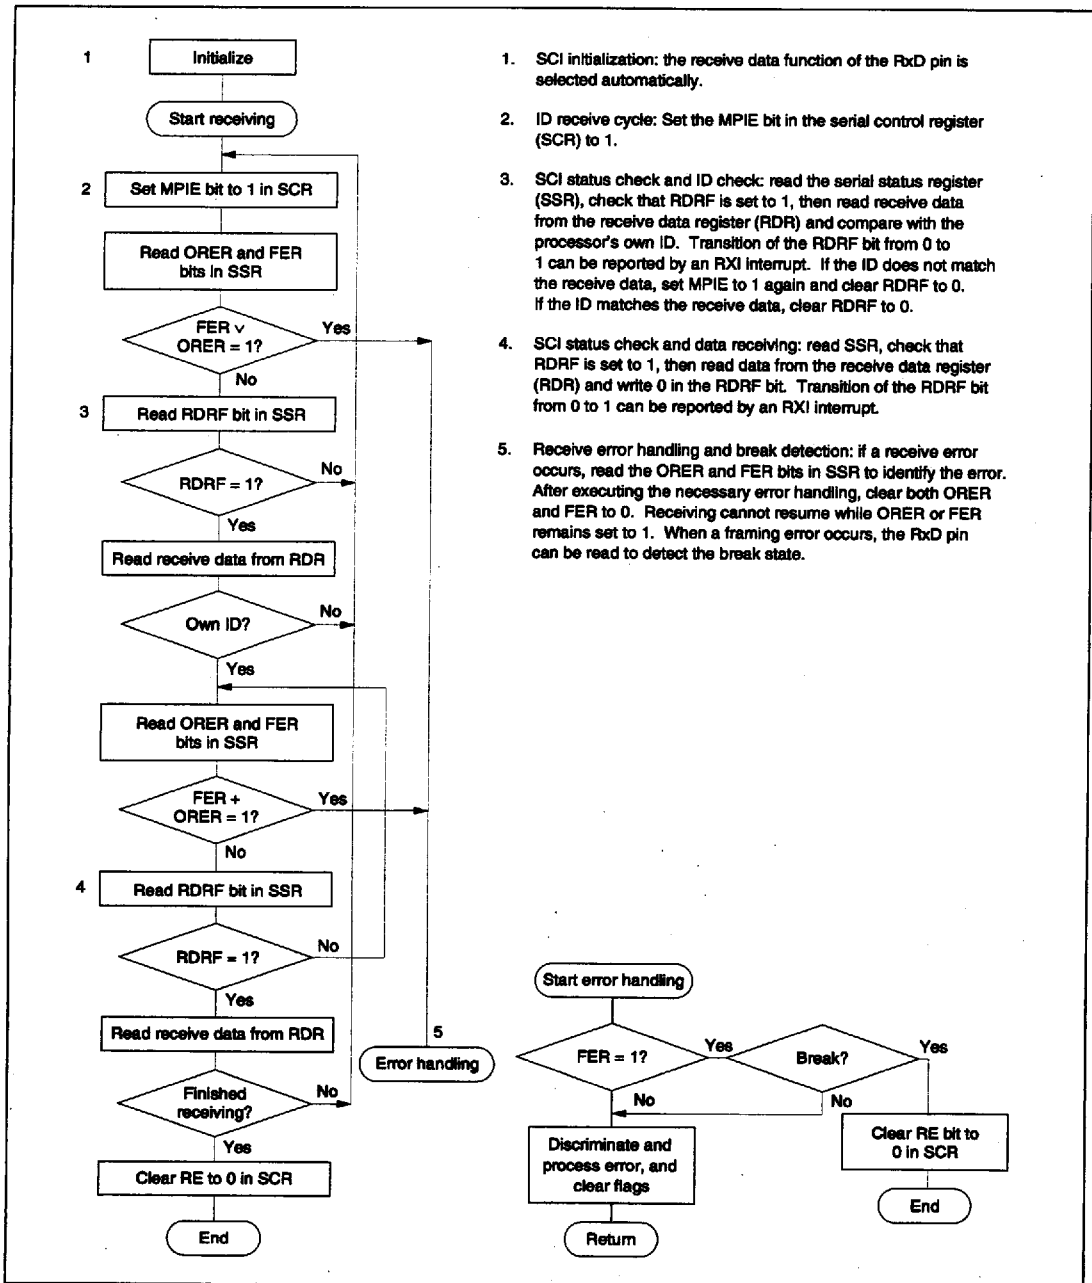

Figure 11-10 Sample Flowchart for Receiving Multiprocessor Serial Data
- **Receiving Multiprocessor Serial Data:** Follow the procedure in figure 11-10 for receiving multiprocessor serial data.